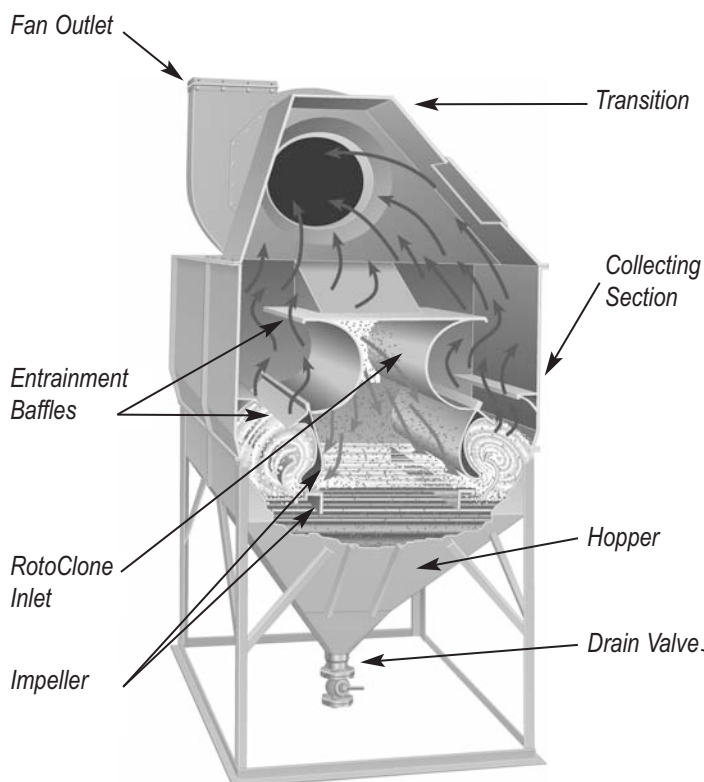

Figure 3. Cutaway section of typical Type N RotoClone, Arrangement D, size 8 thru 20.
1. Be certain drain valve in RotoClone hopper (Figure 3 or 4) is closed.